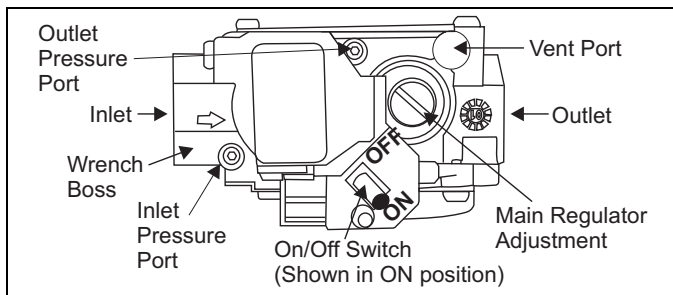

FIGURE 9: Single Stage Gas Valve
3. Check that the ON/OFF switch on the gas valve is turned to the ON position. Refer to Figures 9, 10 or 11.